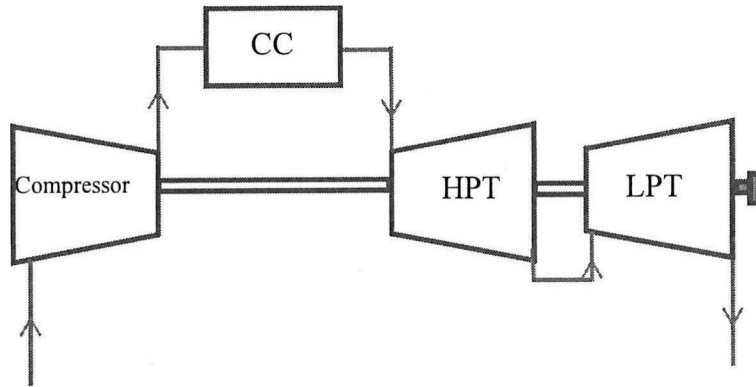

Figure Q2 (b)
- (b) A gas turbine power plant is developed to supply power to a factory as shown in **Figure Q2 (b)**. The temperature and pressure of the air at the inlet are 273K and 100 kPa. The compressor is driven by high pressure turbine and low pressure turbine is coupled to the generator directly. The maximum cycle temperature is 1500 K. Pressure ratio of the compressor is 8:1. Isentropic efficiency of the compressor is 80%. Isentropic efficiency of high pressure turbine is 85% and isentropic efficiency of the low pressure turbine is 83%. Determine;